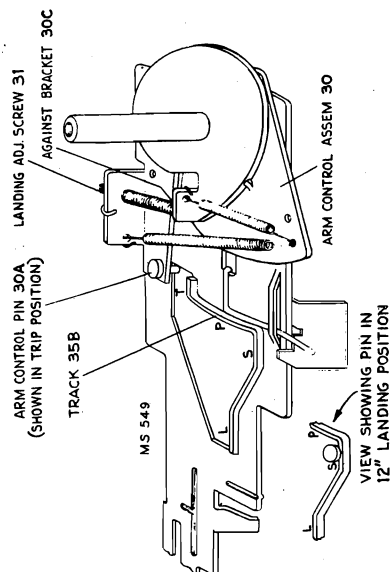

FIG. 8
1. With the mechanism out of cycle turn adjustment screw 31, fig. 8, clockwise as far as it will go, then turn counterclockwise two or three full turns.
3. Press down on the reject button and rotate the turntable by hand, causing the mechanism to cycle until the pickup is about to land on the record. In this position, the arm control pin 30A is in a position on track 35B as indicated by "s" and adjustment screw 31 remains against bracket 30C as indicated in fig. 8.
The exact landing adjustment can be made by pressing the reject button and rotating the turntable by hand until the pickup is about to land. Then turn adjustment screw 31, fig. 8, until the sapphire is directly above the starting groove of the record. If the mechanism continues to land incorrectly after this adjustment has been made, compensate the difference by turning the screw 31 slightly. Turning screw counter-clockwise will move the landing towards the center post.